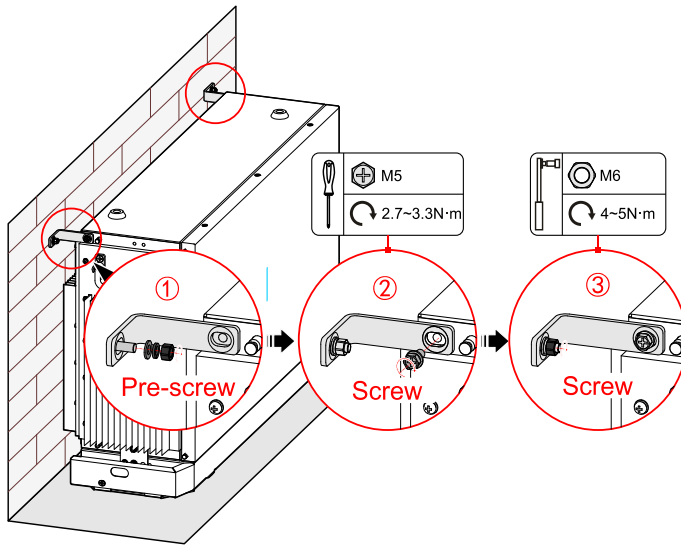

Figure3-24 Fix the wall bracket a
2. Fix the wall bracket a of bottom battery pack1, as shown in Figure3-24.